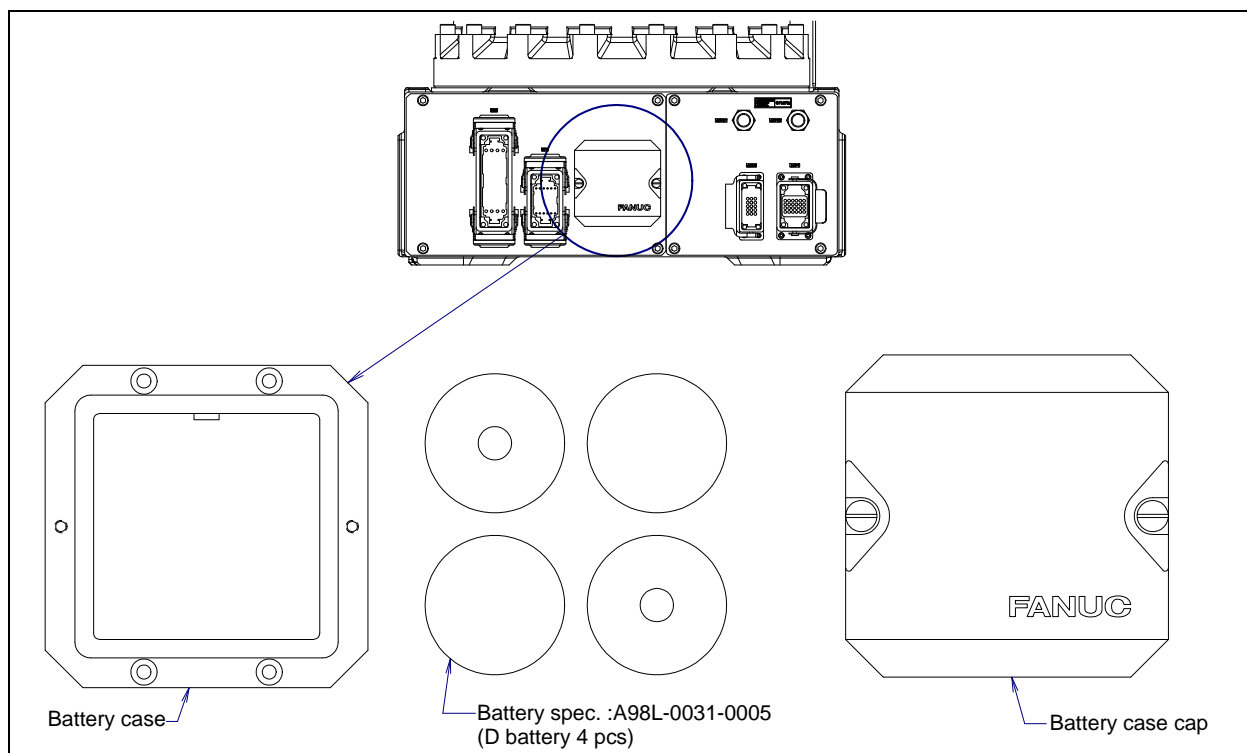

Fig. 7.3.2 (a) Replacing the battery
- 2 Remove the battery case cap. (Fig. 7.3.2 (a))